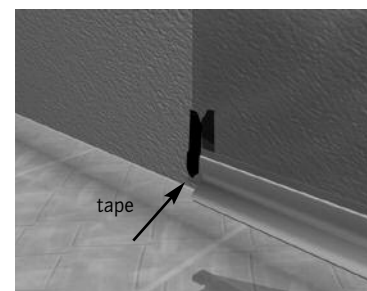

Figure a10
⑩ Using a low adhesive tape secure the Bottom Seal Extrusion (C) onto the glass and leave for a minimum of two hours. The tape should be placed at both ends and in the centre of the Bottom Seal Extrusion (Figure a10). This is to ensure that the Bottom Seal Extrusion does not move until the sealant has cured.